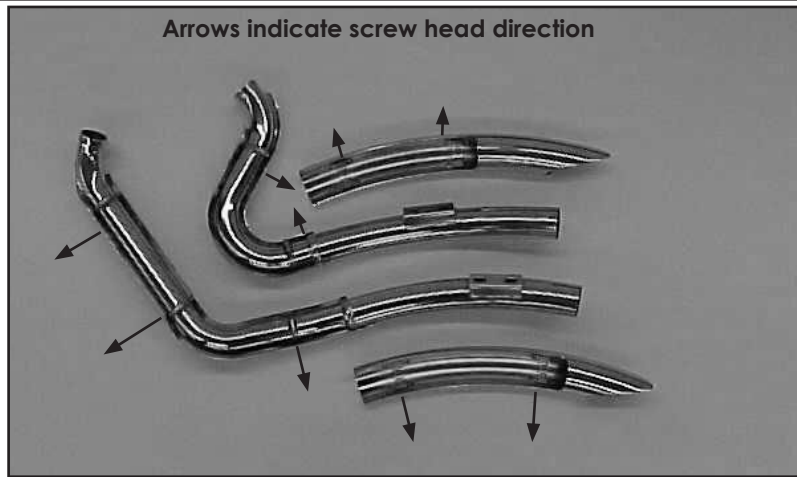

FIGURE 5
5. Install circlips and flanges from stock system onto both new head pipes (**Figure 5**).